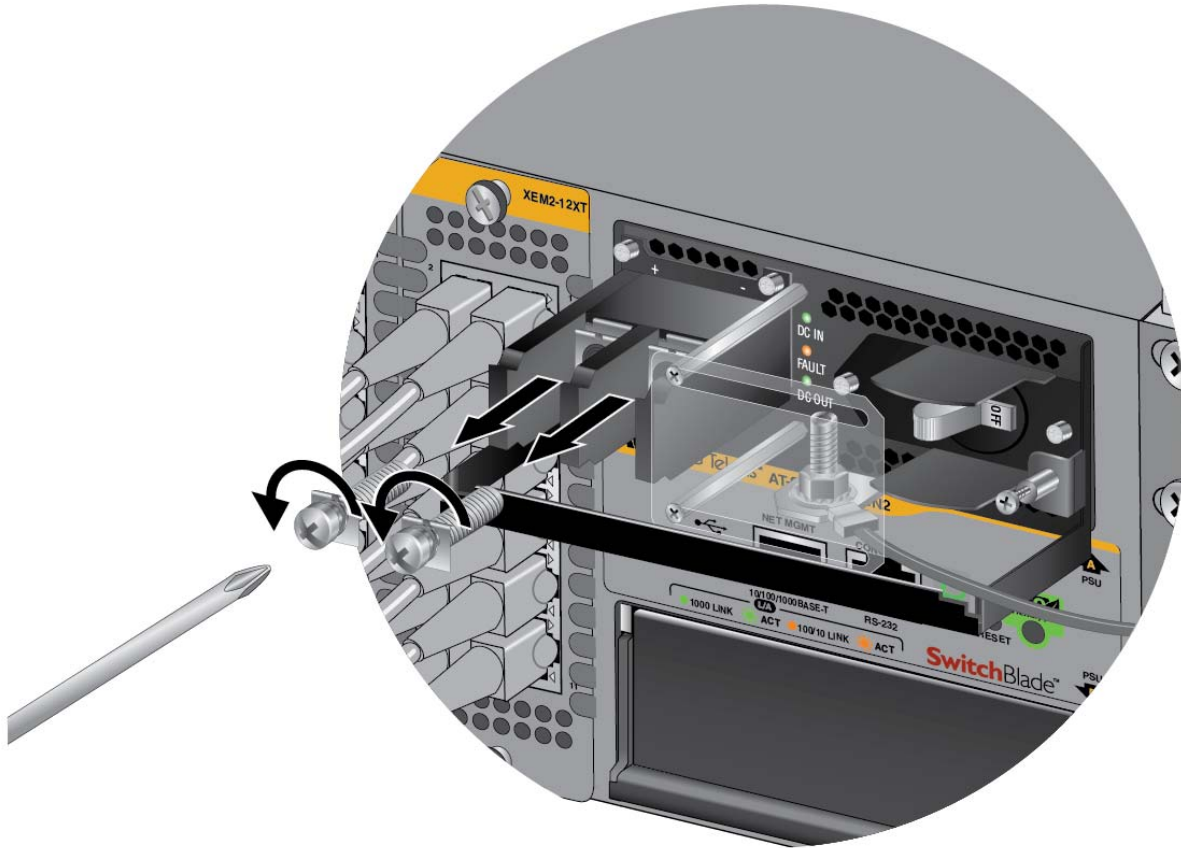

Figure 65. Removing the Terminal Screws
5. Use a #3 Phillips-head screwdriver to remove the two screws from the positive and negative terminals, as shown in Figure 65 on page 96.
3. Use a #3 Phillips-head screwdriver to remove the two screws from the positive and negative terminals, as shown in Figure 65 on page 96.